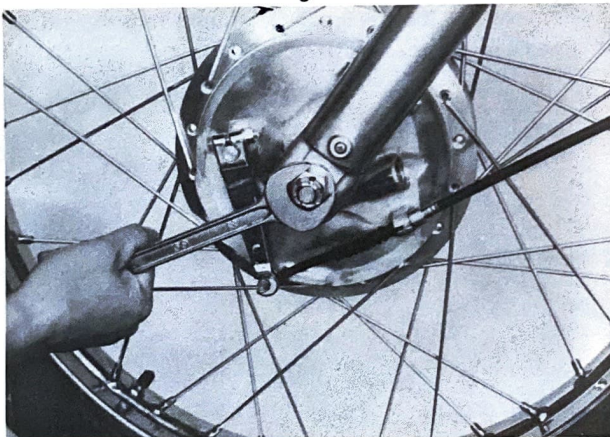

Fig. 12
8. Install the plain washer and wheel shaft nut on the wheel shaft, and tighten the nut with specified torque. (Fig. 12)